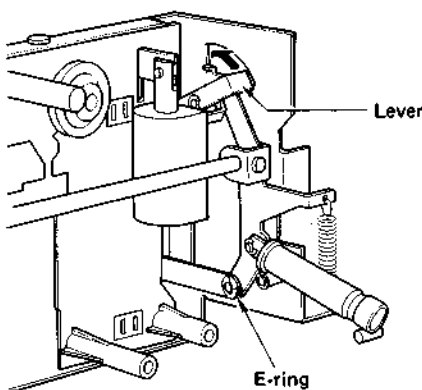

Fig. 10
- 5) To remove the cassette holder, undo E-ring shown in Fig. 10.